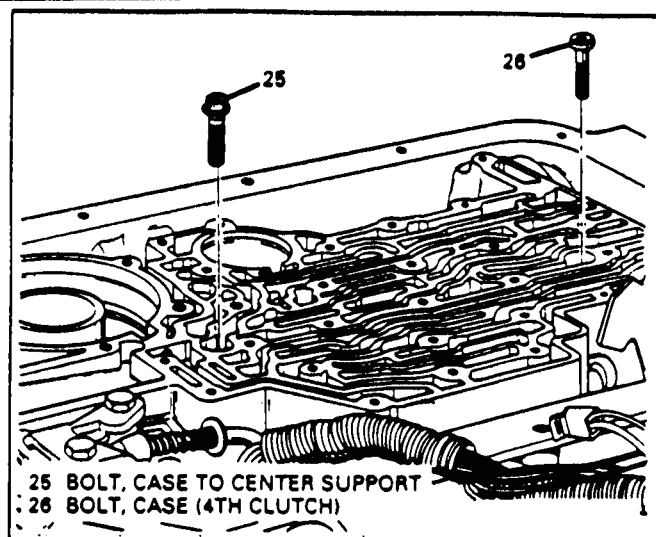

Figure 44
1. Remove the 4th clutch housing retaining bolt, using a 40 torx socket, as shown in Figure 44.
3. Remove the center support bolt, using a 3/8" 12 point socket, from location shown in Figure 44.